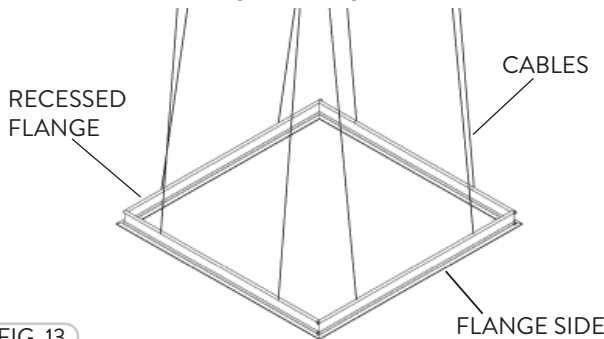

FIG. 13
- 2 Notch out the ceiling drywall surface. Insert the preassembled Recessed Flange frame flush to the ceiling leaving the Flanged Side underneath the ceiling. If the drywall ceiling is thin install Cables to support the frame and the FPNN fixture. Cables are not included with the Recessed Flange frame (Fig. 13).